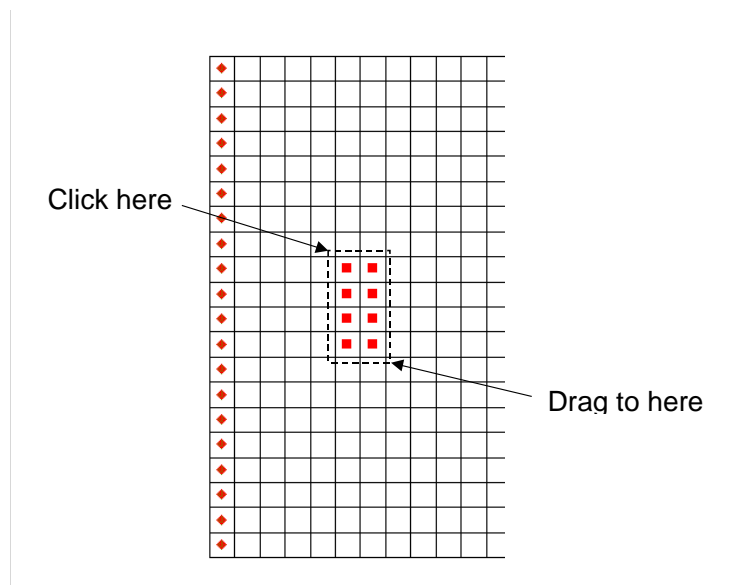

Figure 11.2 Selecting the Cells Defining the Plume.
4. Drag a rectangle to select a 4X2 rectangular region of cells as shown in Figure 11.2. The currently selected cell represents the cell in the upper left corner of the grid of cells.